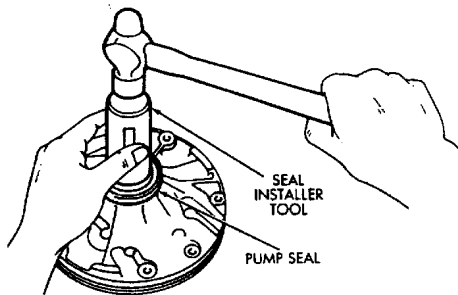

Fig. 4 Installing Pump Seal
(3) Remove thrust bearing and race assembly from clutch drum (Fig. 4).
(4) Measure stroke length of clutch piston as follows: